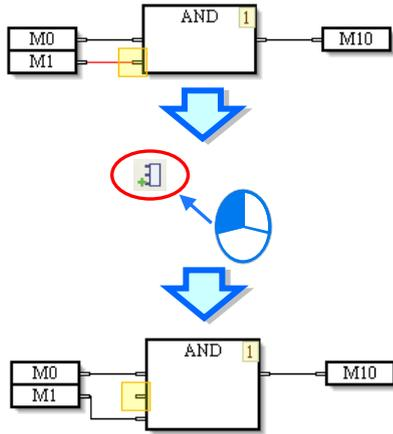

Figure 12-16 Adding a new input pin
(4) If users select an input pin, and then click , a new input pin will be put on the top of the input pin selected, as shown in figure 12-16.